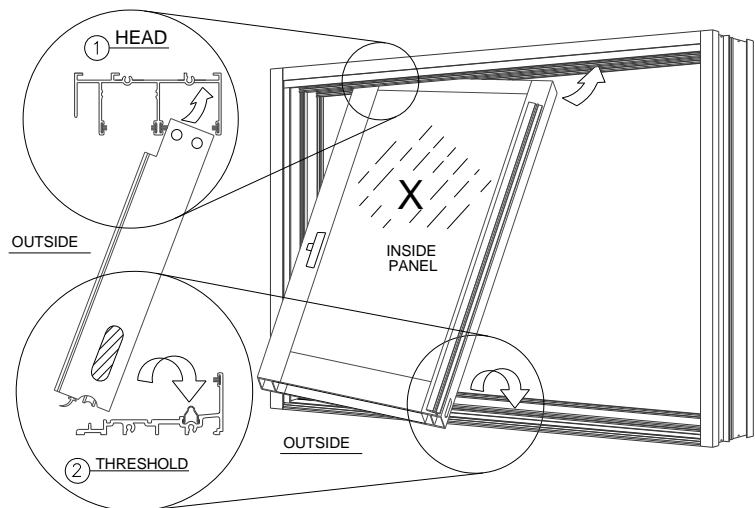

Figure 23:
2. Insert panel (panel located on the track closest to the interior) into the upper head channel. Push up and swing the bottom inward until panel is vertical, then lower panel down onto the track (Figure 23).